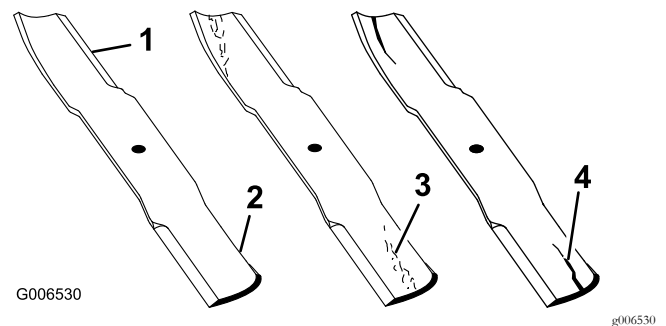

Figure 56
1. Inspect the cutting edges (Figure 56).
4. If you notice any cracks, wear, or a slot forming in this area, immediately install a new blade (Figure 56).